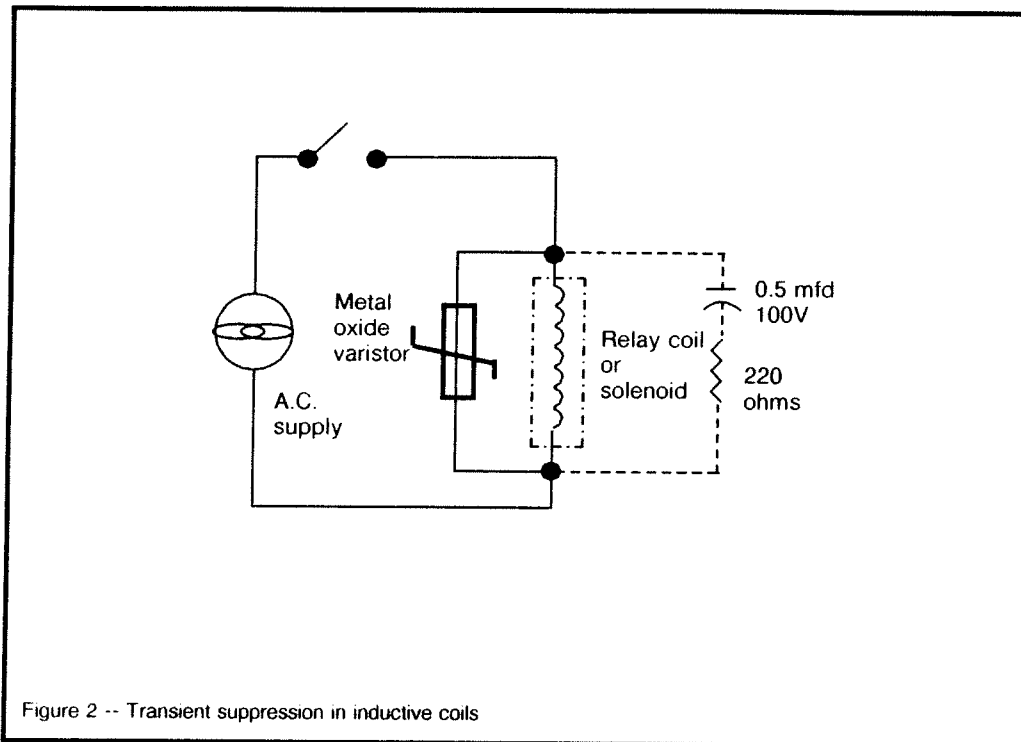

Figure 2 -- Transient suppression in inductive coils
- **Inductive Coils:** Metal Oxide Varistors (MOVs) are recommended for transient suppression in inductive coils. An MOV is connected in parallel with the coil and is as close as physically possible to the coil (Figure 2). MOV devices (Table 2) are recommended for general purpose applications.